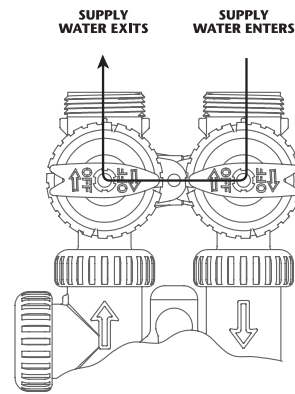

Figure 2
2. **BYPASS POSITION:** The inlet and outlet handles point to the center of the bypass. The system is isolated from the water pressure in the plumbing system. Untreated water is supplied to the building (**Fig. 2, page 4**).
4. Remove retaining ring which holds top cap in place (**see Fig. 2**). Push down on top cap equally to unseat the ring. To remove, pull on retaining ring handle by pulling inward and then upward. This will release ring from grooved seal.